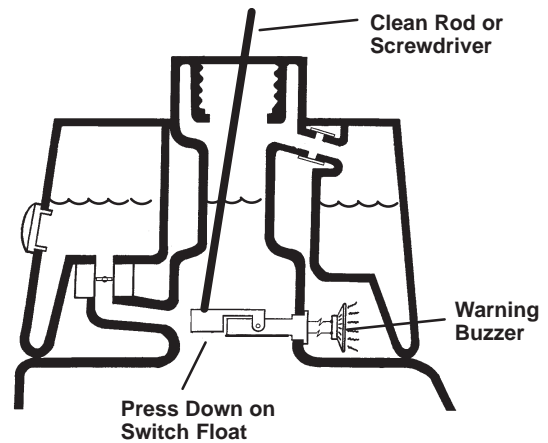

Figure 29
3. Insert a clean rod or screwdriver into the tank neck and gently push down on the switch float (Fig. 29). The alarm should sound after the one-second delay.